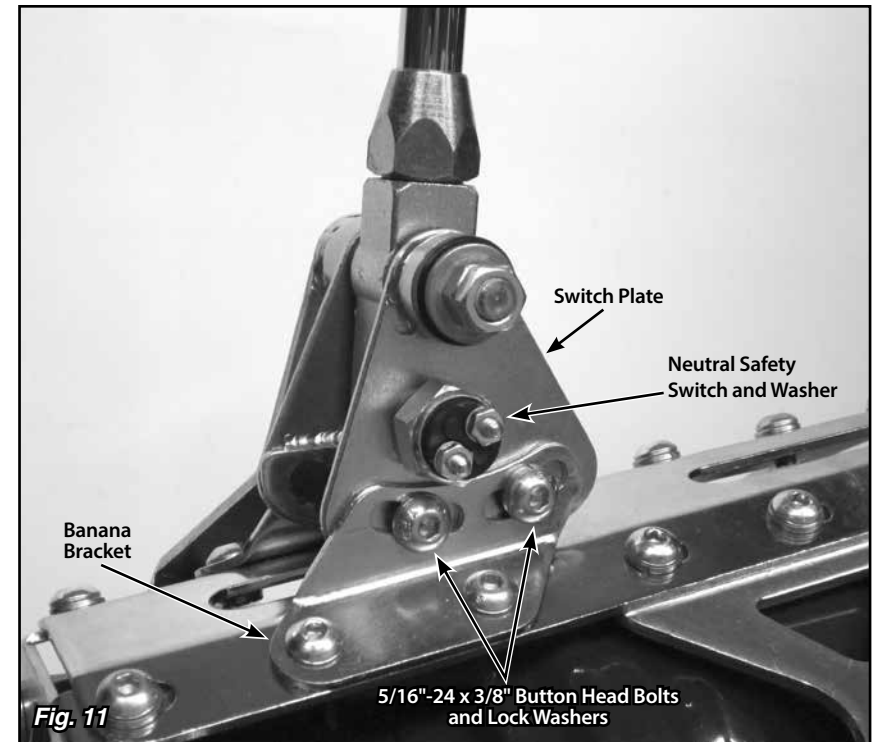

Fig. 11
**Step 17:** Remove the neutral safety switch and washer from the switch plate on the **passenger** side of the shifter using a 7/8" wrench or socket. **Fig. 11**
**Step 18:** Loosen, but do not remove, the two 5/16"-24 x 3/8" button head bolts and lock washers that attach the switch plate to the passenger side banana bracket (the bolts are in curved, slotted holes). **Fig. 11**